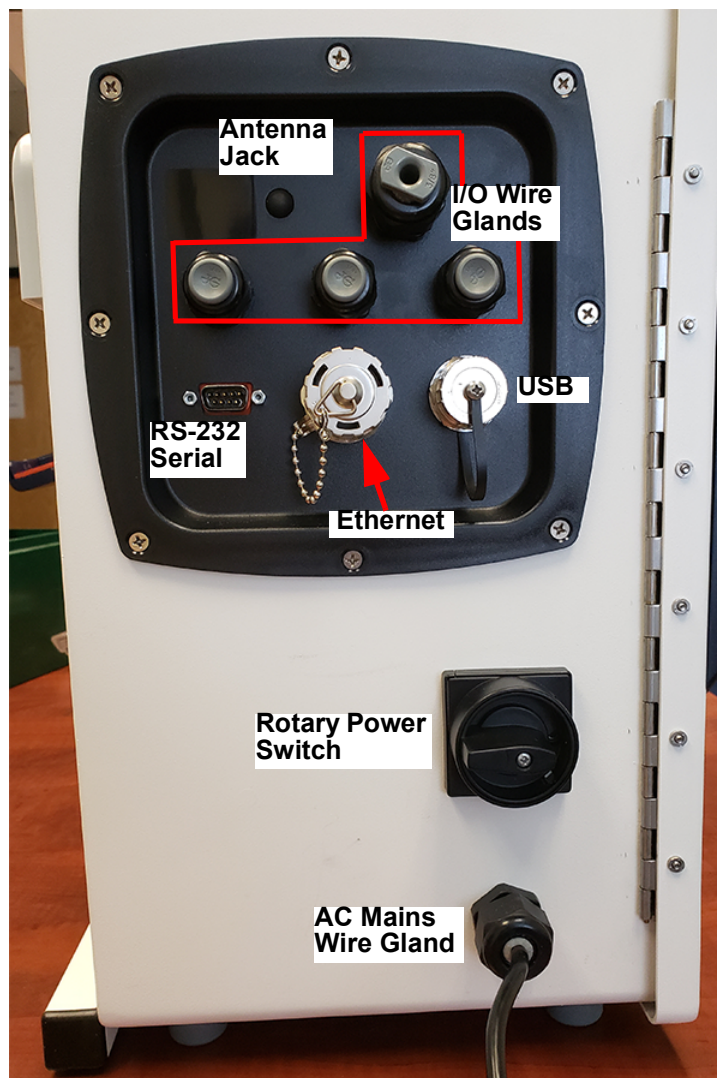
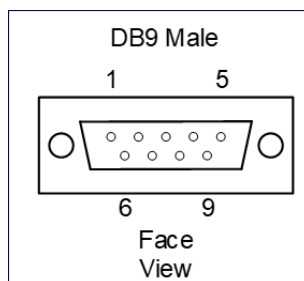

Figure 3-7: Input and Output Connections
Figure 3-8: Asynchronous Serial Port (RS-232)
1. Turn the rotary power switch (located on the left outside panel of the Analyzer; see Figure 3-7 on page 86) to the *On* position to initiate power in the Analyzer. The touchscreen illuminates and displays a splash screen.
To install a USB memory device, insert it into the USB port. (See Figure 3-7: Input and Output Connections on page 86.) The device must be oriented properly to slide into the port.
The serial connection is provided as an optional means of capturing data from the Analyzer. Serial cables are available at many computer and office supply retail stores. Refer to Figure 3-7: Input and Output Connections on page 86, and "Figure 3-8: Asynchronous Serial Port \(RS-232\)" on page 88, as needed.
NOTE: For long distance connections (up to 1,000 feet or 305 meters), Veolia recommends use of either a RS-232 current loop converter or an RS-422 converter. Optionally, an Ethernet connection is available. See Figure 3-7: Input and Output Connections on page 86.
Attach one end of an Ethernet cable to the Ethernet port located on the left outside panel of the Analyzer (Figure 3-7: Input and Output Connections). Attach the other end of the cable to an Ethernet port on the network, to a computer, or to a printer. After installing the Ethernet cable, configure Ethernet in the Analyzer's firmware, "Configuring an Ethernet Connection" on page 175. To set up the printer for use with the Analyzer, see "Enabling a PDF Printer" on page 102. To assist in using the Modbus communications with the Analyzer, refer to Appendix E, "Modbus with the Analyzer."